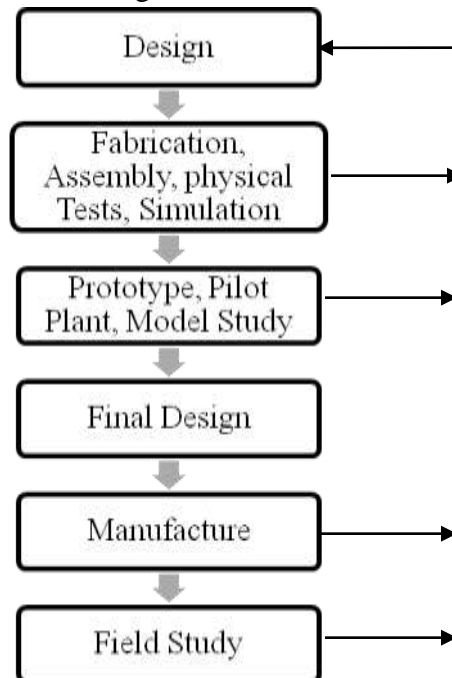

Fig 3.1 Design as an interactive process
- Before manufacturing a product or providing a project, we make several assumptions and trials, design and redesign and test several times till the product is observed to be functioning satisfactorily. We try different materials and experiments. From the test data obtained we make detailed design and retests. Thus, design as well as engineering is an iterative process as illustrated in Fig. 3.1.